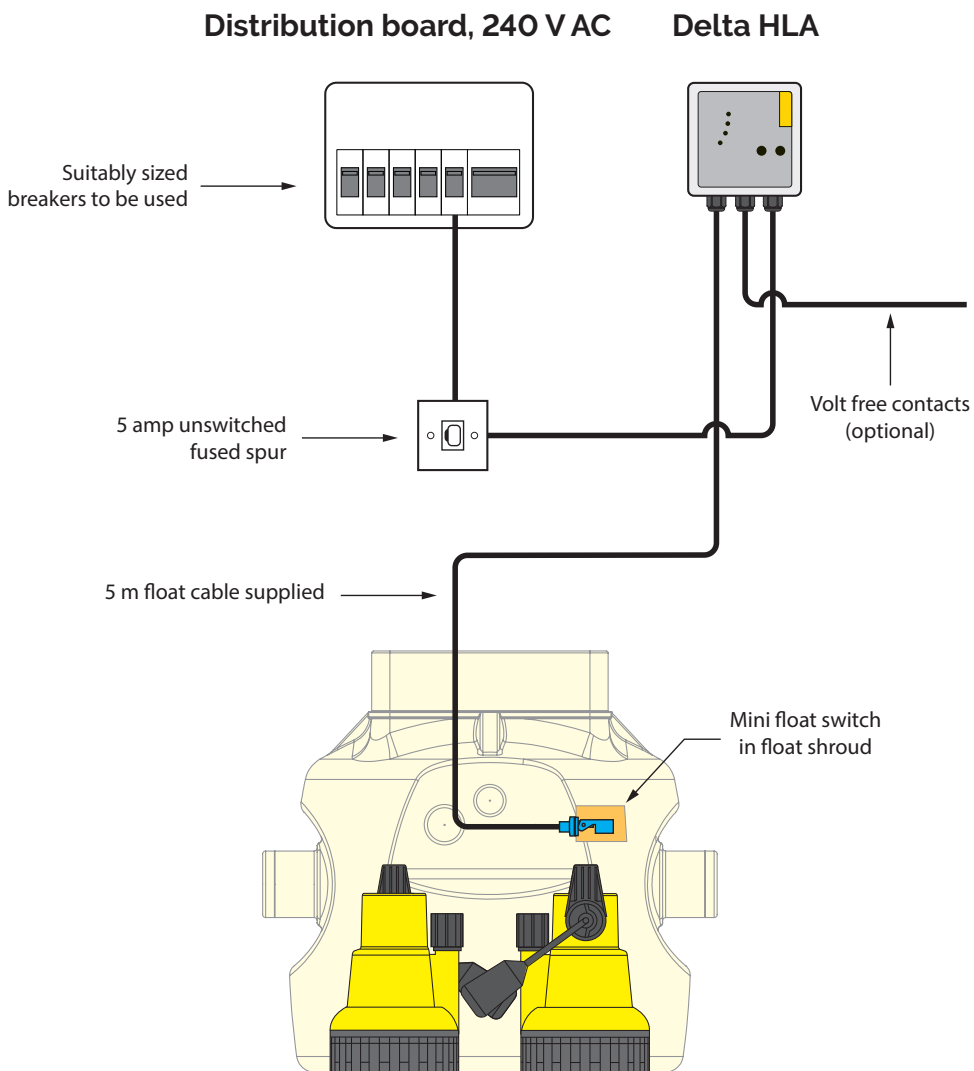

Figure 10. Connecting the Delta HLA to mains electrical supply.
- To mute the alarm for 7 days, see mute button, as shown in Figure 10.